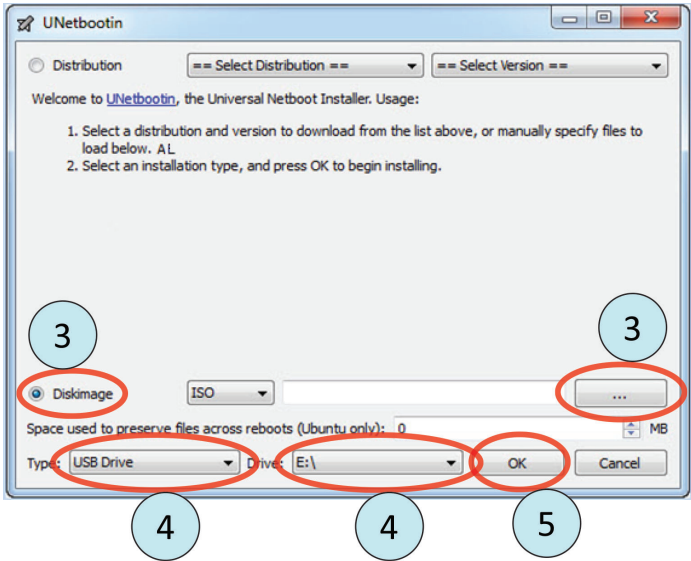

Figure E10. Initial UNETBOOTIN application window.
- 2) Run the UNETBOOTIN application. The UNETBOOTIN window (shown in figure E10) will open.
- 3) Select the **Disk Image** option, then click the '...' button (both are circled in figure E10). Locate and select the Wizard of Oz ISO file you downloaded from the Jersey Jack Pinball® website.
- 4) Ensure that the **USB Drive** is selected under **Type** and the USB stick you inserted earlier ("E:\\" in this example) is selected under **Drive** (both are circled in figure E10).